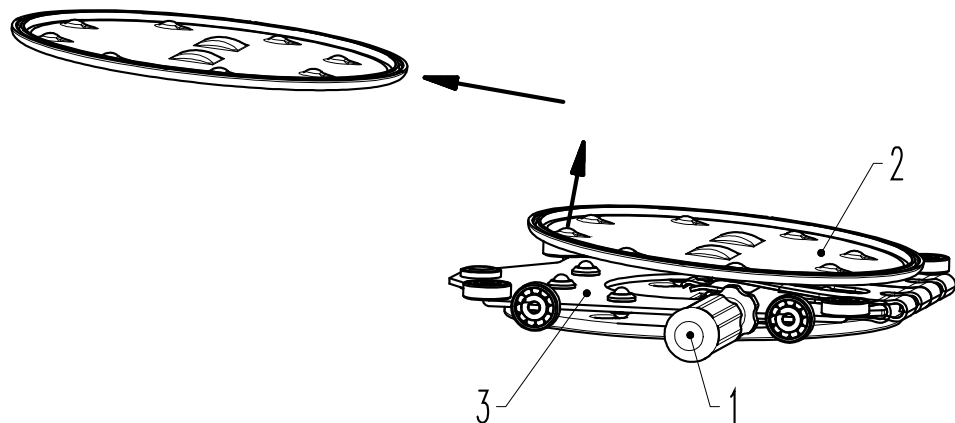
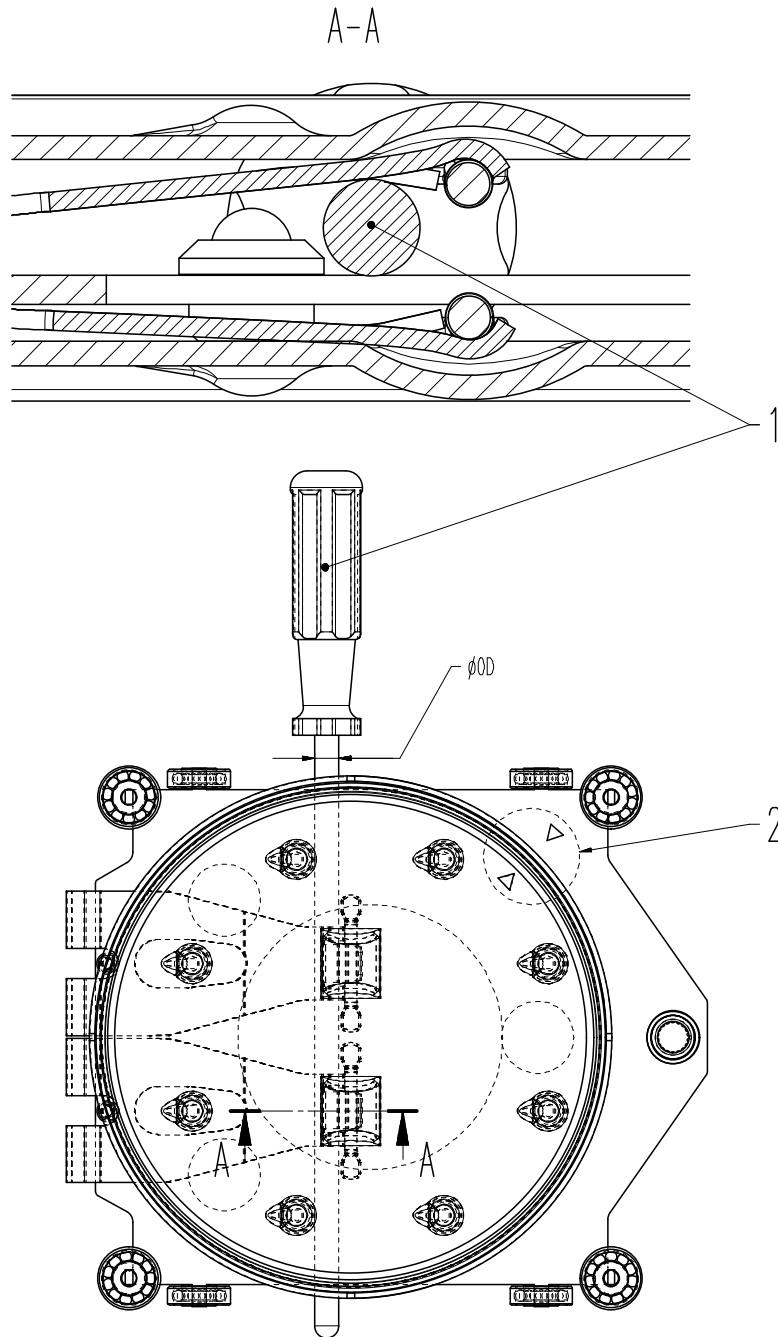

Figure 6-3
Figure 6-4
For dismounting and mounting the valve gate always use tool (1) according to «Figure 6-3». The tool may be ordered from VAT.
12. Lift valve gate (2) by hand and insert tool (1) between valve gate (2) and ball guidance (3); see «Figure 6-3» on page 17 and «Figure 6-4» on page 18.
13. Remove valve gate in direction of the arrow; see «Figure 6-3» on page 17.
The markings Δ and ∇ (2) according to «Figure 6-4» on page 18 on ball guidance and valve gate must face each other.
15. Withdraw tool according to «Figure 6-3» on page 17.